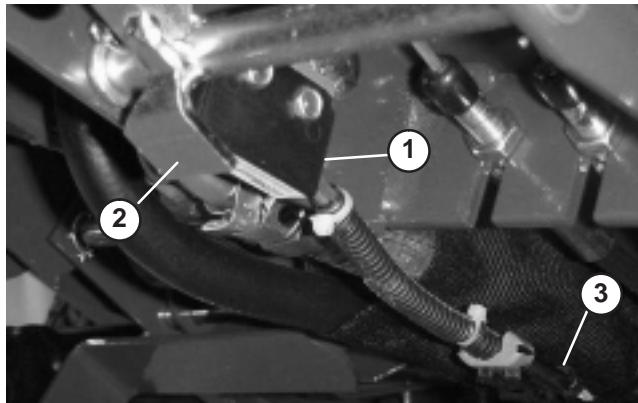

Figure 63
1. Gap between parking brake shaft pivot paddle and bottom of interlock switch (Fig. 63) should be approximately 1/16" (Paddle must not contact switch).